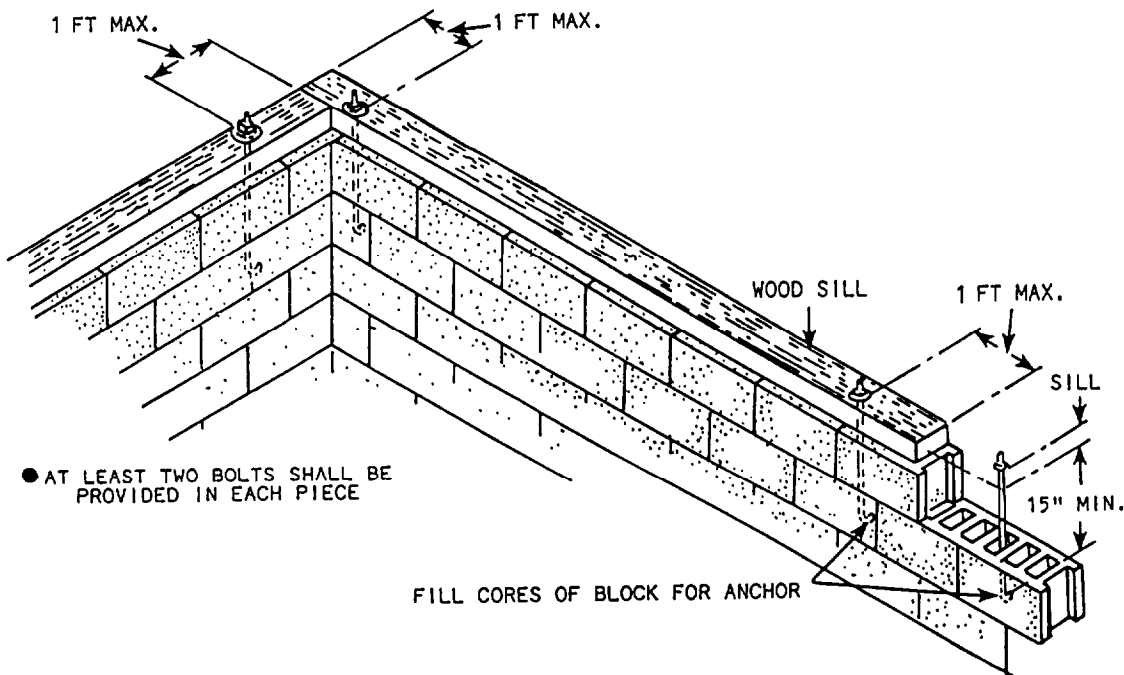

Figure 1-6.—Spacing of anchor bolts.
view A) and a minimum of 7 inches into reinforced concrete (view B). The length of the anchor bolt is found in the specifications; the spacing and location of the bolts are shown on the drawings. If this information is not available, anchor bolt spacing should not exceed 6 feet on center (OC). Also, a bolt must be placed within 1 foot of the ends of each piece (as shown in fig. 1-6).